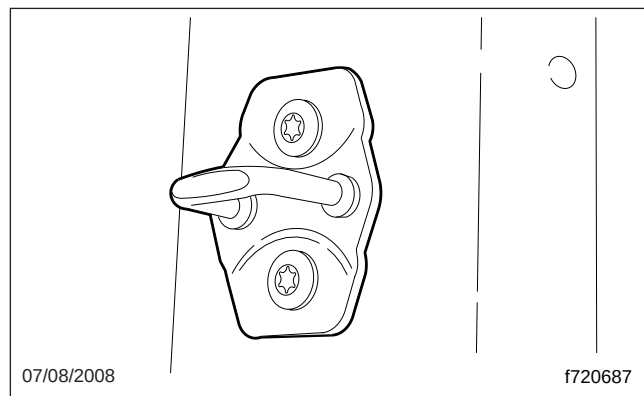

Fig. 5, Striker
4. Loosen the striker (**Fig. 5**), then tighten it just enough to prevent unintentional movement.
1. If the rear edge of the door needs adjusting, with the tires chocked, mark the vertical and horizontal positions of the striker (Fig. 5) before loosening it for adjustment.
1. With the tires chocked, from outside the cab, partially close the door and make sure that the striker (Fig. 5) is centered in relation with the latch jaws. Only the center of the striker should contact the latch jaws.